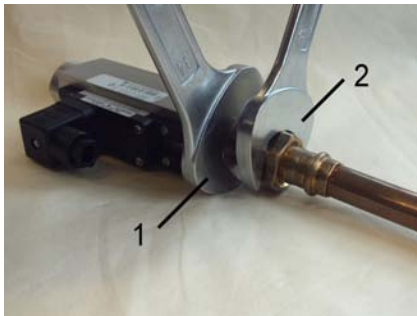

Fig. 10: Screw in the device
2. ➤ Fasten the adapter union of the pipeline with an appropriate spanner (Fig. 10/2). When doing so, lock the process connector in place to prevent slip, using a suitable spanner (Fig. 10/1).